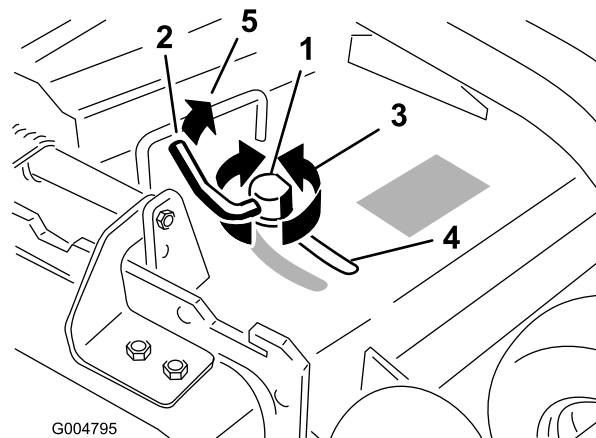

Figure 28
3. To adjust the cam lock, swing the lever up to loosen the cam lock (Figure 28).
5. Swing the lever back over to tighten the baffle and cam lock (Figure 28).